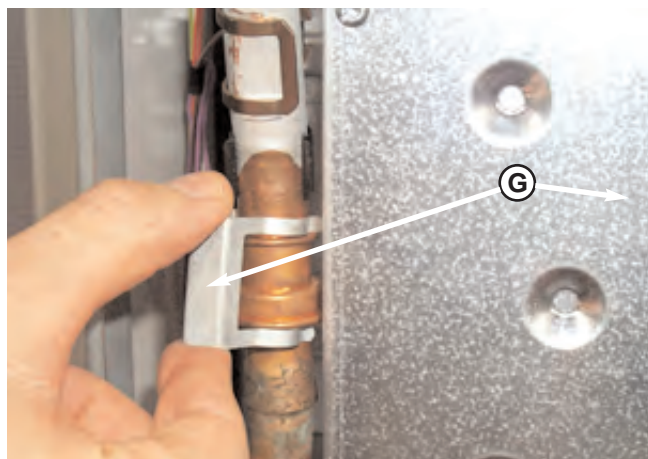

Fig. 55
3. Remove the 2 front clips "G" securing the heat exchanger (see Fig. 55);